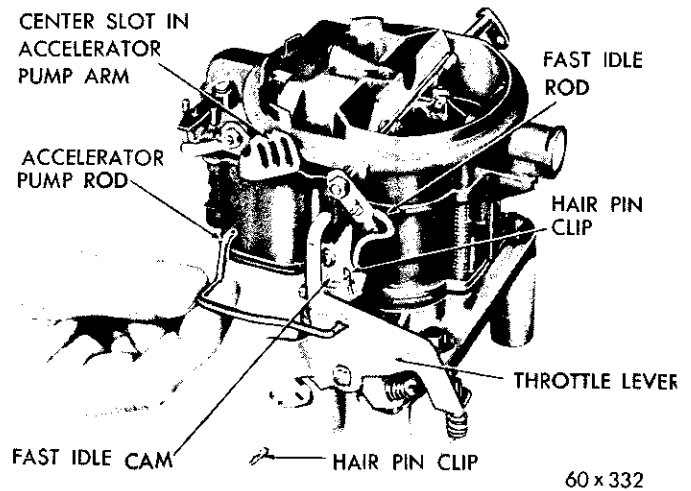

Fig. 12—Removing or Installing Pump Rod
- (2) Remove the hairpin clip that holds the pump rod in the center slot of the pump arm. Remove rod from slot and disengage from the throttle lever, as shown in Figure 12.